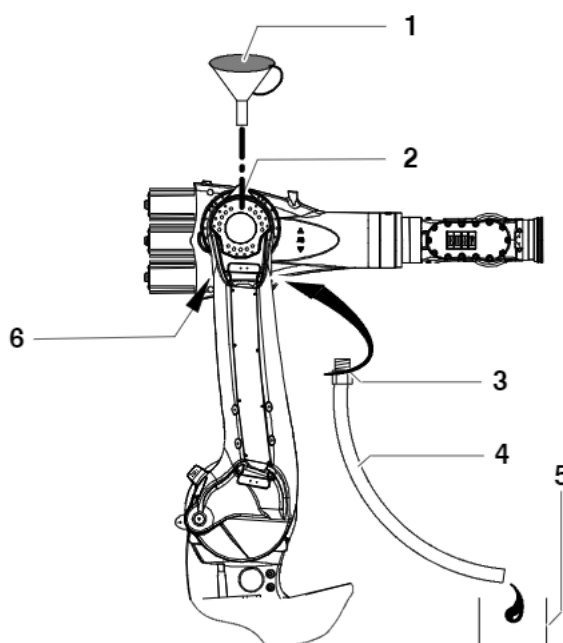

Fig. 5 Changing the oil on axis 3
- (1) Put robot into operation and move axis 3 until screw plugs (Fig. 5/2, 6) are aligned vertically.